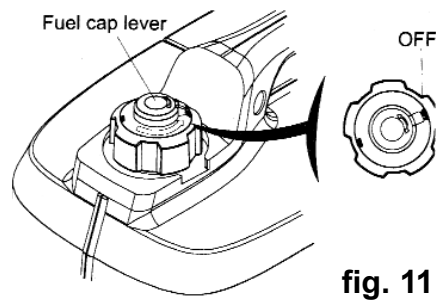

fig. 11
3.6.3 Turn the fuel cap lever fully counter clockwise to the OFF position. Refer to fig. 11.